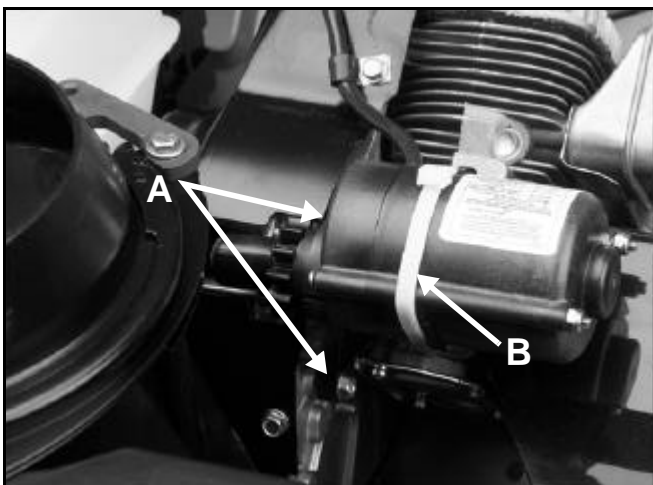

Figure 135
10. Remove the two bolts on the starter and snip the wire tie holding the starter in position (Figure 135).